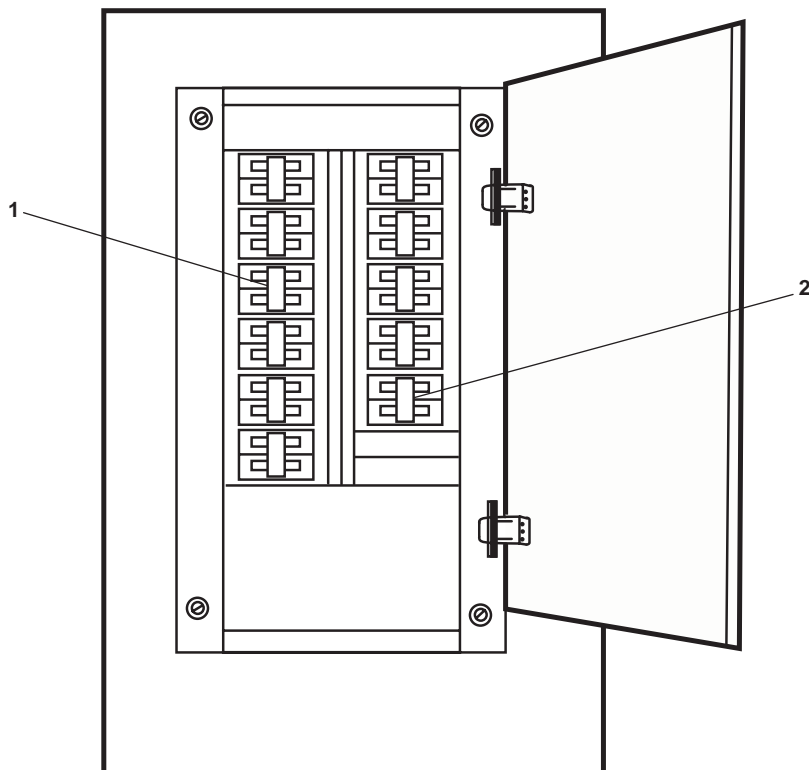

Figure 4. Main Deck, 01 & 02 Emergency Lighting Panel No. 1
- a. FREEZER ALARM. (figure 4, item 1)
- b. ALARM SWITCHBOARD (HIGH TEMPERATURE & SPRINKLER). (figure 4, item 2)